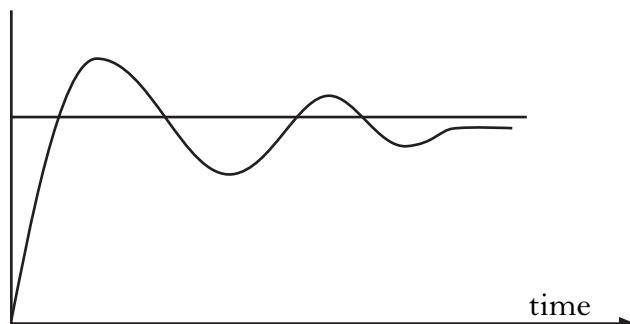

Figure Q8(a)
8. A mechatronic system uses a Proportional control strategy. Figure Q8(a) illustrates a system response to a step change.
- (a) On **Worksheet Q8**, complete Figure Q8(a) by entering, in the spaces provided, the appropriate label from the list below: